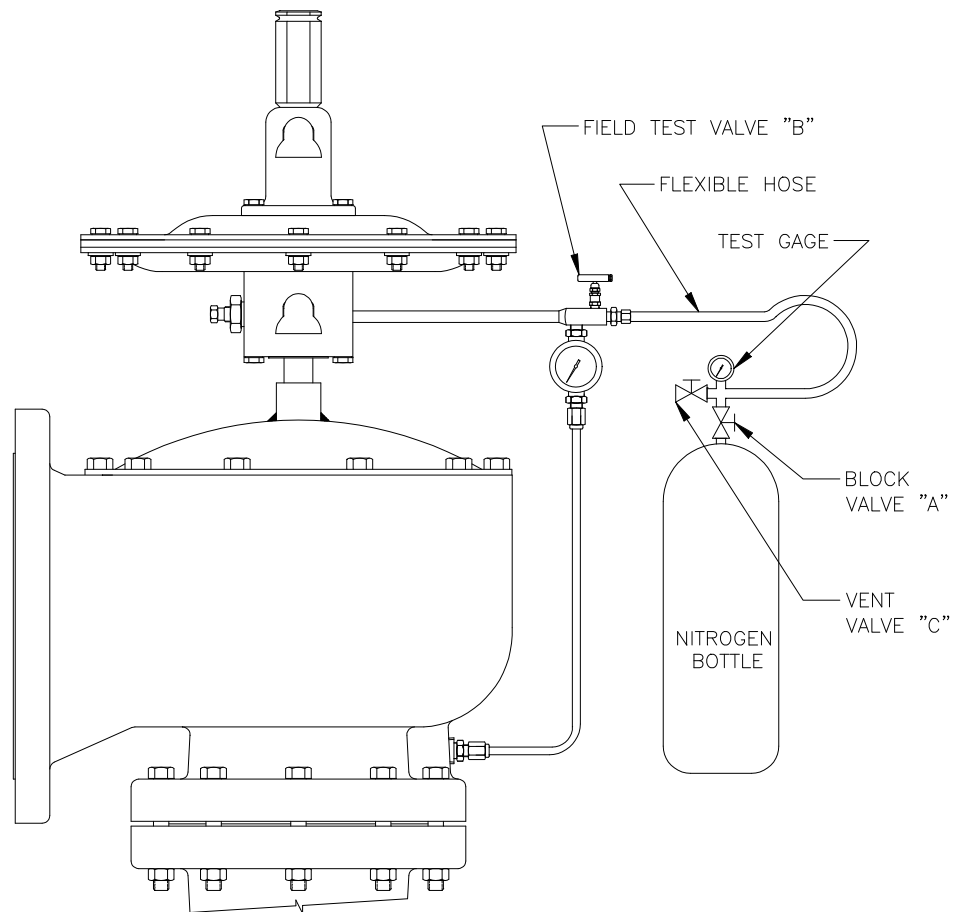

FIGURE 7
The pilot set pressure can be checked in the field by applying an external test pressure to the pilot through the Field Test Hand Valve as shown in Figure 7.
- A. Connect test gas bottle as shown in FIGURE 7.